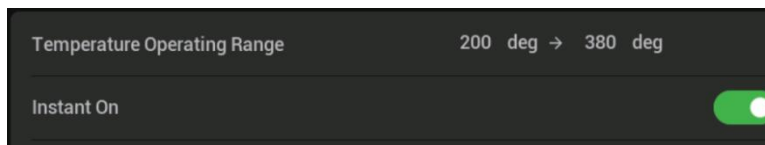

**Figure 164** Factory Settings
**Factory Modifiable** settings are set at the factory, based on the battery configuration **Figure 164**. *Managers do not have access to this tab.* Settings are as follows: